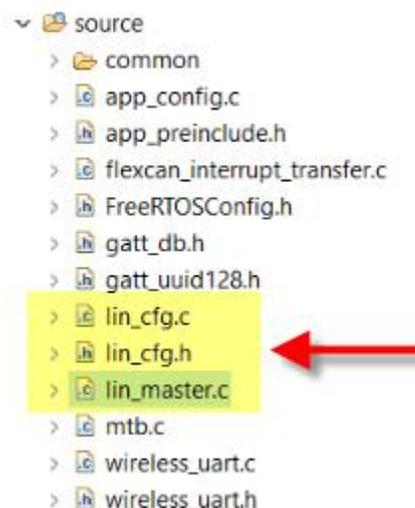

Figure 20. LIN master application files added in MCUXpresso IDE
- Go to MCUXpresso IDE, click F5 (refresh) and “lin_master.c”, “lin_config.c” and “lin_config.h” files will be added into source folder in your Bluetooth LE project Figure 20.